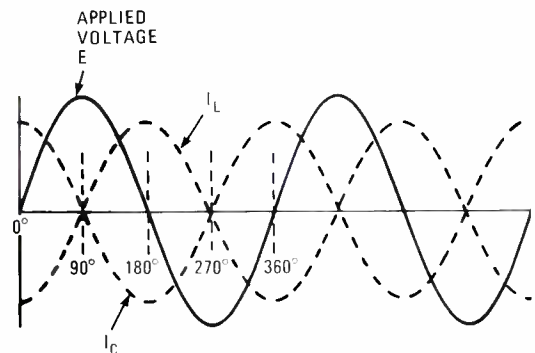

Fig. 10—In a parallel resonant circuit the capacitive current is 180° out of phase with the inductive current.
tude, keep the phase relationships in mind. The current in the capacitor leads the applied voltage by 90° . The current in the inductor lags the applied voltage by 90° . Figure 10 shows the AC sinewaves of current and voltage. Note that the capacitor and inductor currents are 180° out of phase with one another.
25. (no or zero) From Fig. 10, you can see that adding the equal and opposite currents results in zero. Therefore, no current is drawn from the source. The circuit at resonance appears to be an infinitely high resistance. However, this is a theoretical condition only. It would occur only if there were no resistance in the circuit. In reality, the capacitor leads have resistance and the coil which is wound with wire also has resistance. Therefore, the phase shifts are not exactly 90° each. But the resistance values are very small and for the most part the capacitive current does equal and cancel the inductive current. The result is that at resonance, the LC circuit appears to be a very high value of resistance. The small current drawn from the source is in phase with the applied voltage.